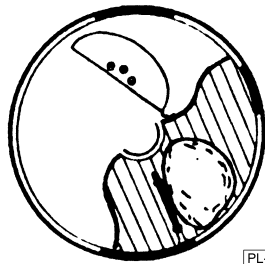

Fig. 5
**NOTE:** When cutting straight potato chips, place the potato chip grid in the knife chamber and turn the potato chip grid clockwise as far as it will go. For best cutting results, the direction of the potato chip grid blades and positioning of the potato should be as shown in Fig. 5.
When cutting French fries with the Julienne cutter, place/pile the potatoes against the partition wall (Fig. 5). The potatoes may be stacked to cut several at one time. For consistent results, stack product against the partition wall of the feed cylinder, one pile only.